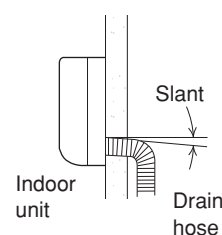

Fig. 44
- a) The drain hose should be slanted downward to the outdoors. (Fig. 44)